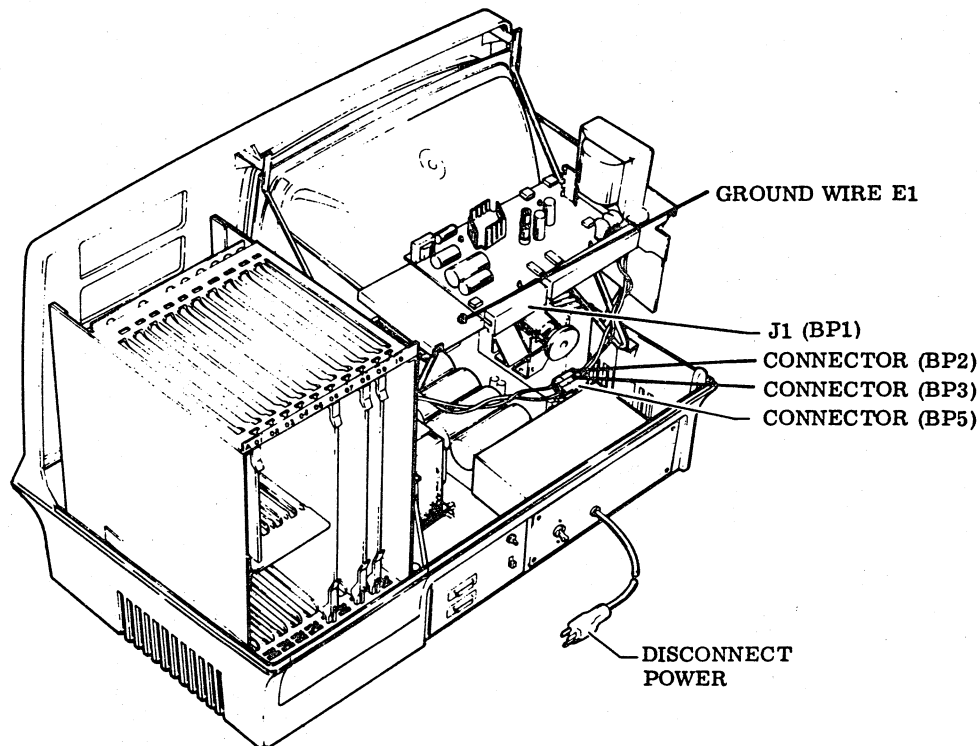

Figure 6-15. Video Connector Removal
3. Disconnect connector BP5 leading to the +15 V dc regulators that are mounted vertically on the large heat sink on the side of the video module (figure 6-15).
+15 V dc regulator connector. Connect BP2, BP3, and the ground wire to E1 (figure 6-15).